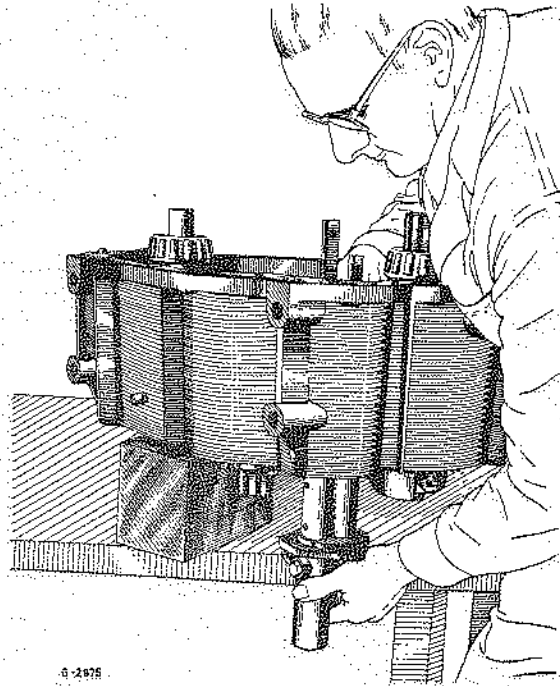

Fig. 6 - Assembling shift rod assembly into case
1. Have the case mounted in a suitable fixture with the rear downwards as in Fig. 6.
3. With the case held with the front end uppermost insert the assembled shift rod housing from the bottom (Fig. 6) inserting the F.W.D. shift rod through the F.W.D. shift fork and bolt to the case with gasket